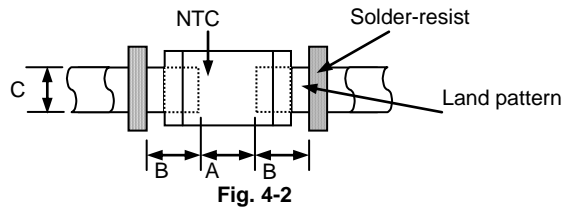

Fig. 4-2
- 2) Recommended PCB pattern for reflow soldering: See Fig.4-2 and Table 4-1.